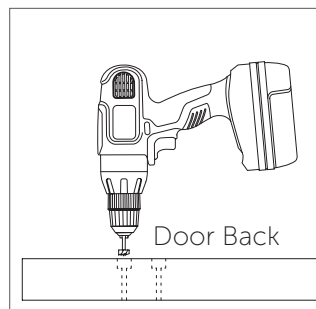

Figure 6
7. Turn the door over and using a 1-1/8" Forstner bit*, drill a 7/16" deep hole into each pilot hole (Figure 6).
9. Hang the doors closest to the wall first by holding the bottom of the door away from the wall (Figure 6).